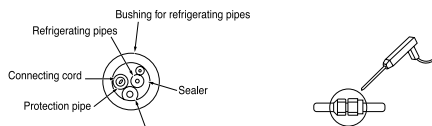

Fig. 7-1
- 7.2 Arrange the penetrating part of the wall presently with the bushing for refrigerating pipes and sealer which is belonging to the pipe set as shown in Fig. 7-1.